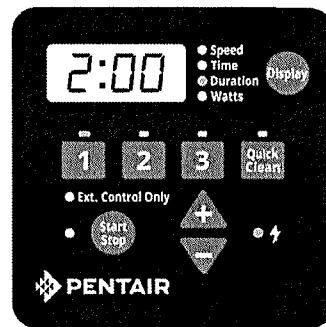

Figure 10: Setting Duration
6. Press the "1" button again and the display will change to SPEED 1 duration. The "Duration" parameter LED will begin to blink. See **Figure 10**.